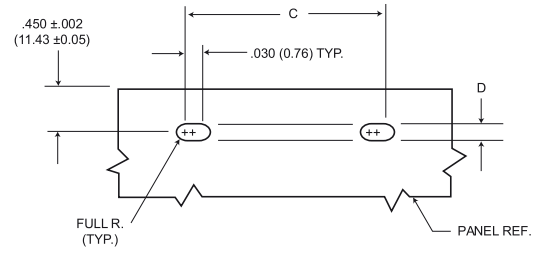

Figure 3
3. Edgeboard mounting bracket (figure 3) uses #2-56 screws. Dimension .450 ± .002 (11.43 ± 0.05) locates the MD receptacle flush with the end of the board.